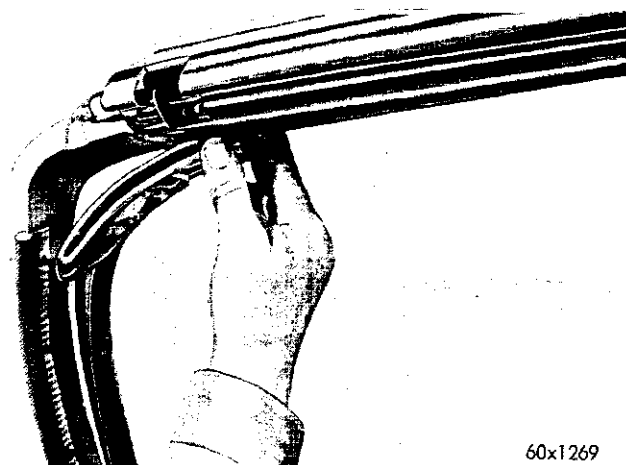

Fig. 30—Removing the "A" Post Inner Side Moulding
(6) Remove the screws attaching the inner and outer side "A" post side mouldings (Figs. 30 and 31).
(7) Remove the sun visors.
(8) Remove the screws attaching the header trim cap to header.
(9) Remove the windshield glass.
- (4) Install the screws and tighten securely.
- (5) Install the inner and outer trim mouldings. (Refer to Figs. 30 and 31.)
- (6) Press tightly against the weatherstrip, engage with the header, and lower moulding, then press down over door hinge pillar ("A" post) and install the retaining screws.
- (7) Seal the windshield.
- (8) Install the sun visor wiper arms. Test for leaks and clean the windshield.